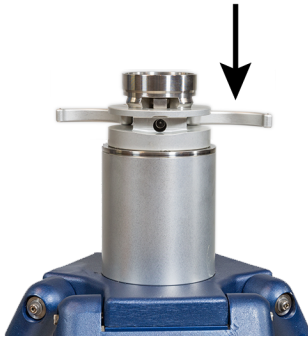

Figure 4-7 Loosening Side Lever
1. Pull out the other lever as shown in Figure 4-7 and use it to loosen the mandrel and unthread it from the stand.